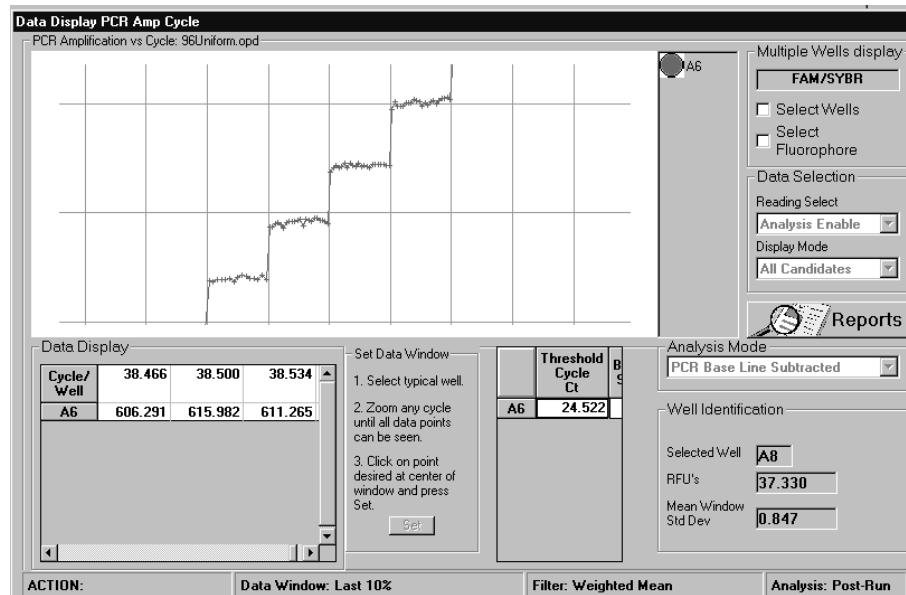

Fig. 7.14. Zoomed in on a Single Well.
- Choose any single well by clicking on its button to the right of the plot, and then while holding down the Control key, drag the mouse across a section of the plot to zoom in. You may zoom more than once. (Figure 7.14)